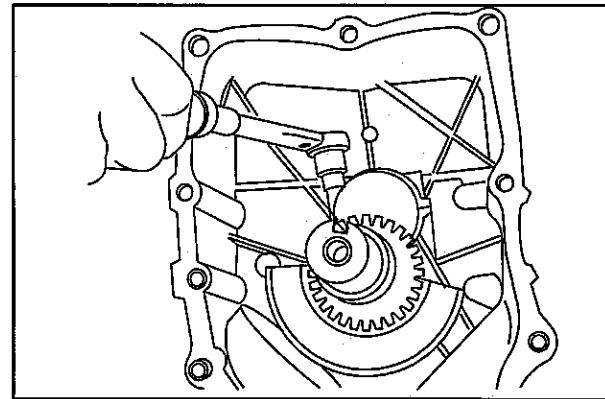

Fig. 4
4. Assemble connecting rod cap to rod with match marks aligned, **Fig. 4**. Torque screws to 115 in. lbs. (13 Nm).